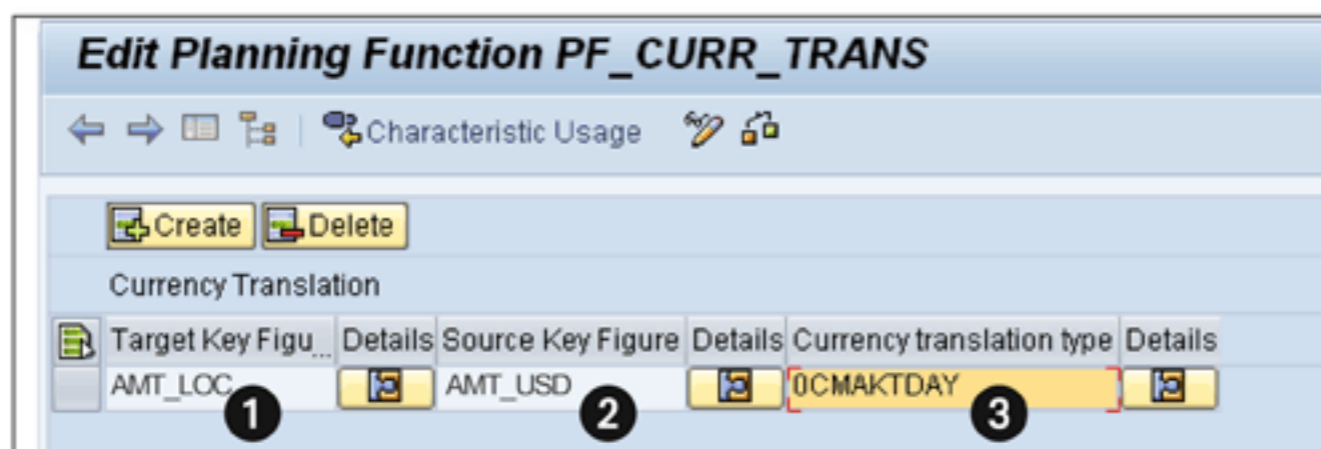

Figure 12.50 Currency Translation Function
To define the CURRENCY TRANSLATION function, specify the key figure that needs to be translated in the column source key figure (❷ of Figure 12.50). Also include the key figure where the translated values will be stored (❶). Both the source and target currency could be the same key figure; in this case, the translated values of the key figure overwrite the original values. You must also specify the currency translation type, which decides how the values should be translated (❸).